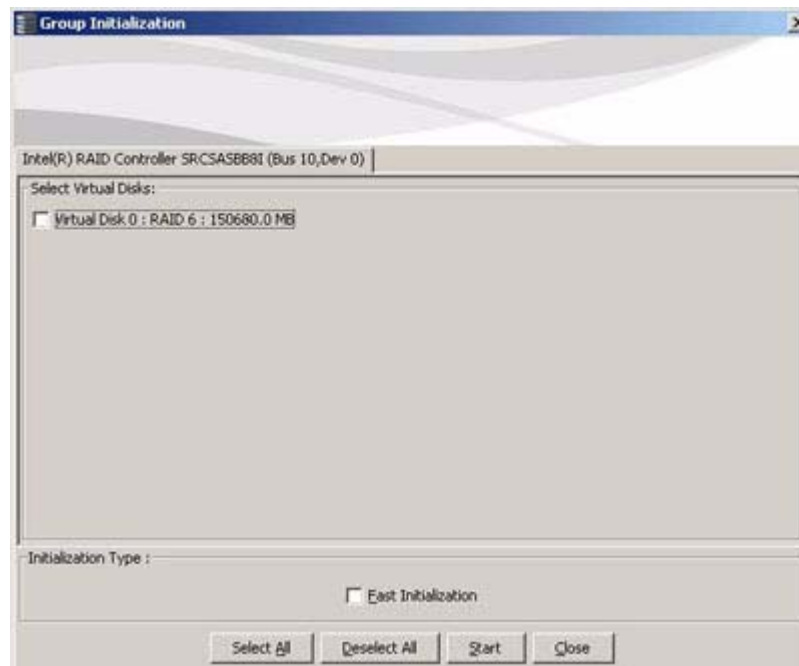

Figure 82. Group Consistency Check Window
1. Select **Group Operations | Check Consistency**. The Group Consistency Check window is displayed, as shown in Figure 82.